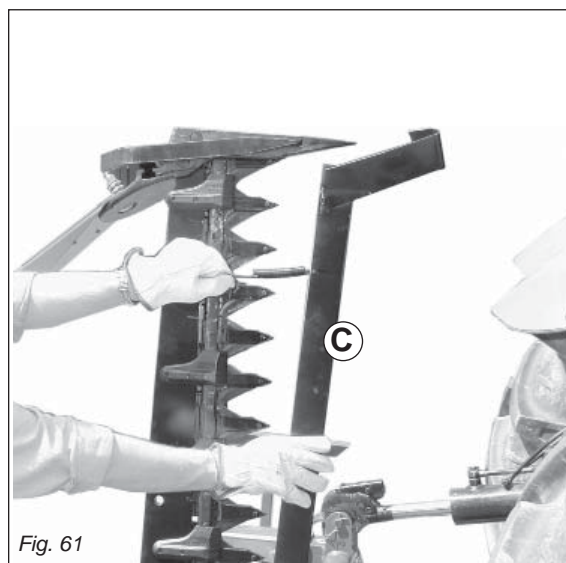

Fig. 61
- Fit the guards over the cutters and outer skid (C, Fig. 61).